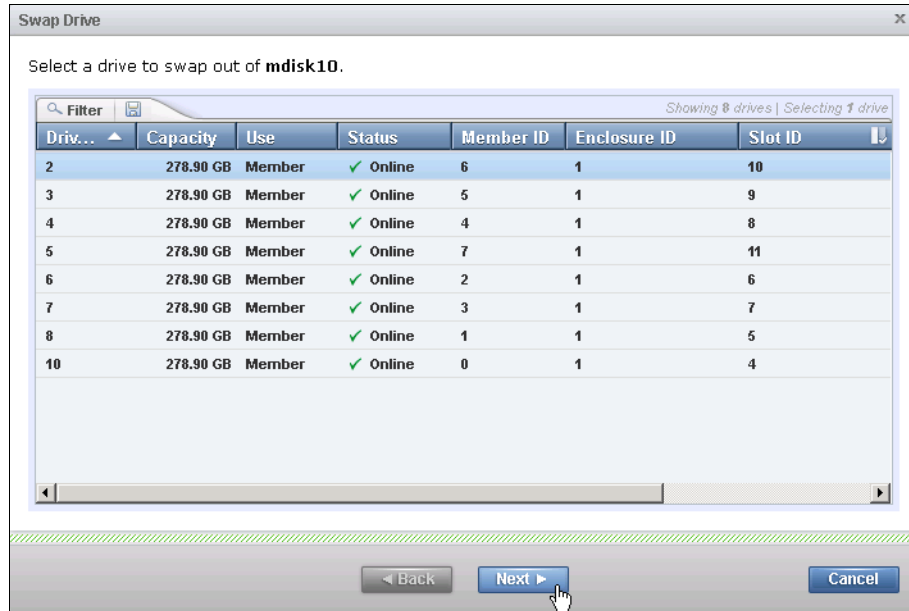

Figure 7-48 Select a drive to swap
- **Swap Drive:** This action can be used to replace a drive in the array with another drive with the status of Candidate or Spare. This action is used to replace a drive that has failed, or that is expected to fail soon, for example, as indicated by an error message in the event log. Select an MDisk that contains the drive to be replaced and click **RAID Actions** → **Swap Drive**. In the Swap Drive window (Figure 7-48), select the member drive to be replaced and click **Next**.